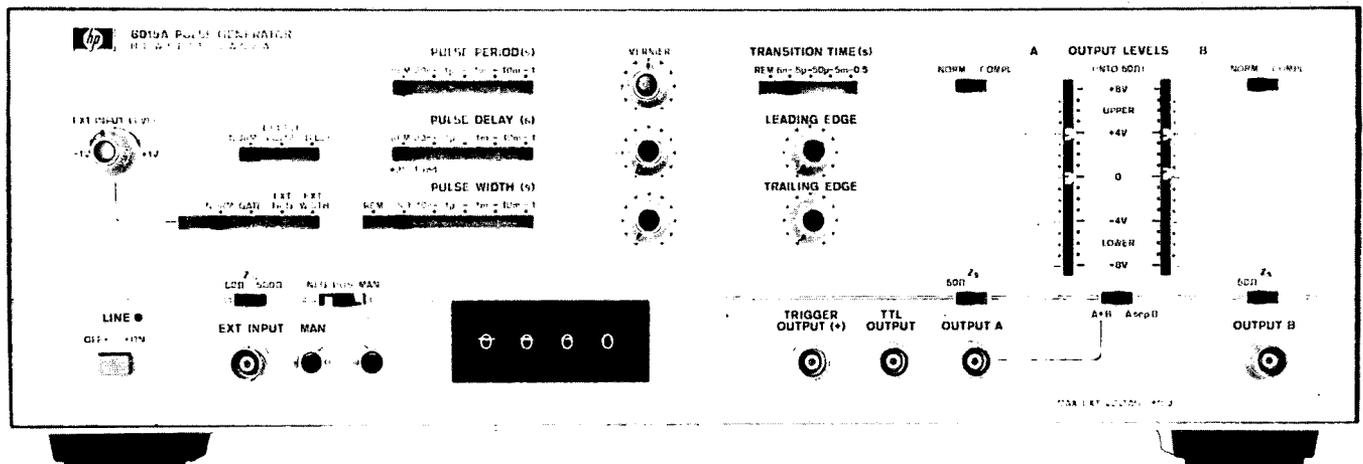

Figure 7-5-1. 8015A Option 005 (with Option 002)
7-5-3 The 8015A TTL Output option (005) provides a TTL compatible output at a front panel BNC connector (see figure 7-5-1). The logic levels of this output are $\geq 4.5V$ for a logic 1 and 0V for a logic 0; all other pulse parameters remain variable.